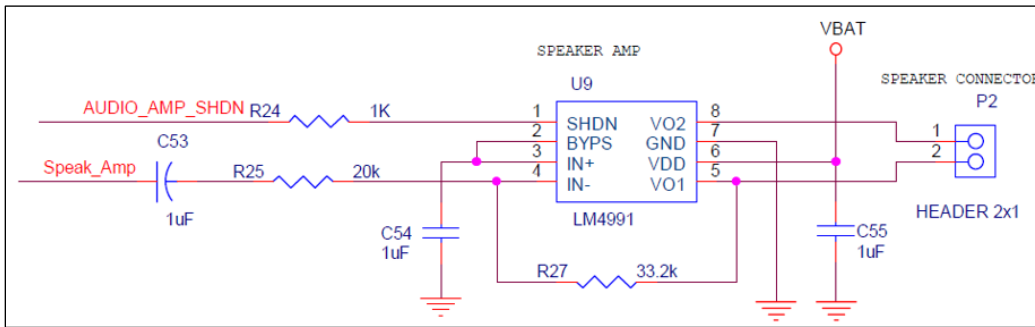

Fig 22-16 Reference design of using AB type power amplifier
- If the power amplifier is an AB type amplifier, refer to the design shown in Fig 22-16 (power amplifier is LM4991).